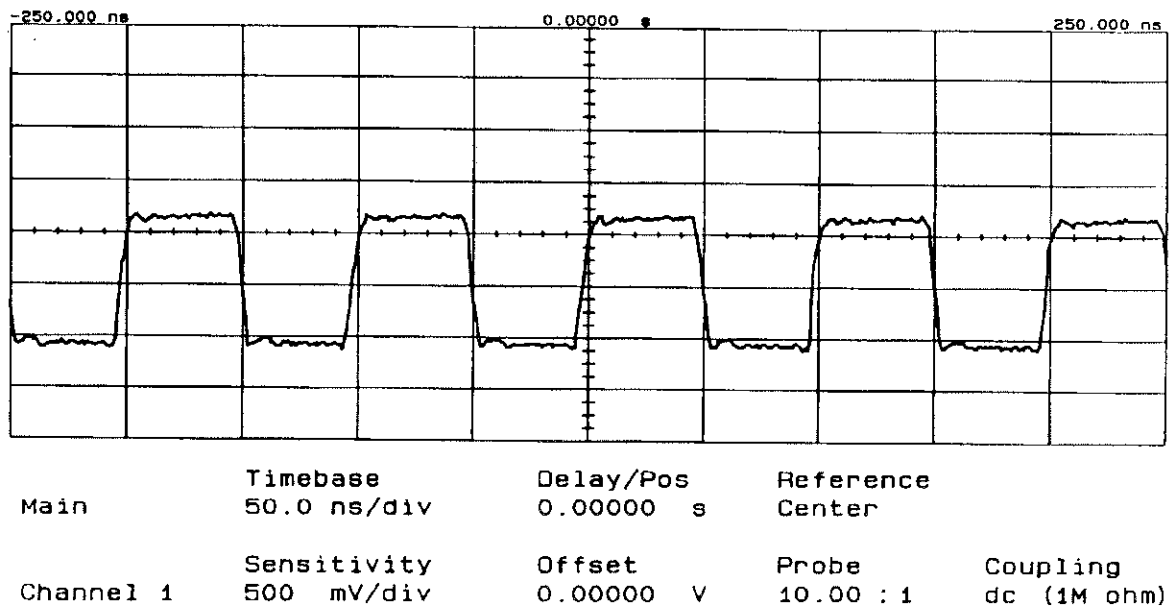

Figure 7-7. Waveforms at A2U4(3) and A2U15(3)
- B. Measure Comparator input pin A2U4(3) [A2U15(3)]. Ensure that a 10 MHz square wave having a DC offset of -480 mV is measured (see *Figure 7-7*).